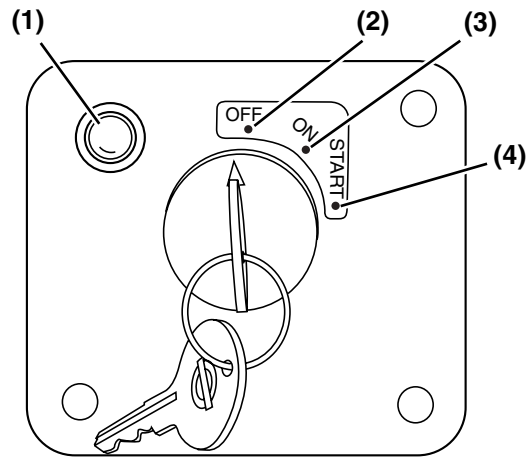

Figure 5
Battery - (Figure 5, (1)) - Your driven machine may have a battery indicator that comes on if there is a problem in the charging system. This indicator does not indicate whether the battery is discharged. See *Troubleshooting Chart* on page 85.
If your engine is equipped with electric start it may have a three position key switch - OFF, ON, and START. See **Figure 5** for an illustration of a typical key switch.
OFF (key straight up and down (Figure 5, (2))) - When you turn the key to this position the engine shuts down. Electric current to the battery indicator and other electric devices is shut off. You can insert and remove the key in this position.
ON (Figure 5, (3)) - This is the position the key will be in when the engine is running. When the engine is not running, use this position to energize the optional devices such as indicators or electric fuel pump.
START (Figure 5, (4)) - Turn the key to this position to start the engine. As soon as the engine starts, release the key and it will automatically return to the ON position. Some key switches may be equipped with a feature that prevents you from turning the key to the START position while the engine is running. In these configurations, you cannot turn the key to the START position without first returning the key to the OFF position.